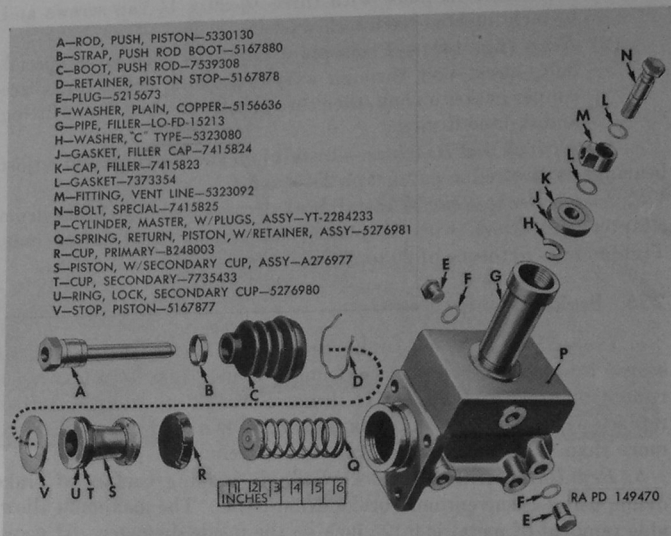

Figure 168. Master cylinder components.
*Note.* Key letters noted in parentheses are in figure 168 unless otherwise indicated.